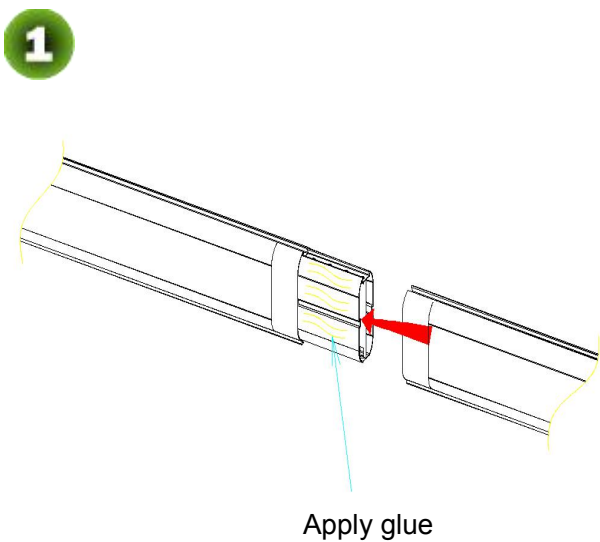

Figure 2-4A Applying Glue
- 2) Add glue onto the connection part of the boom, fix the two parts together, as shown in Figure 2-4A.